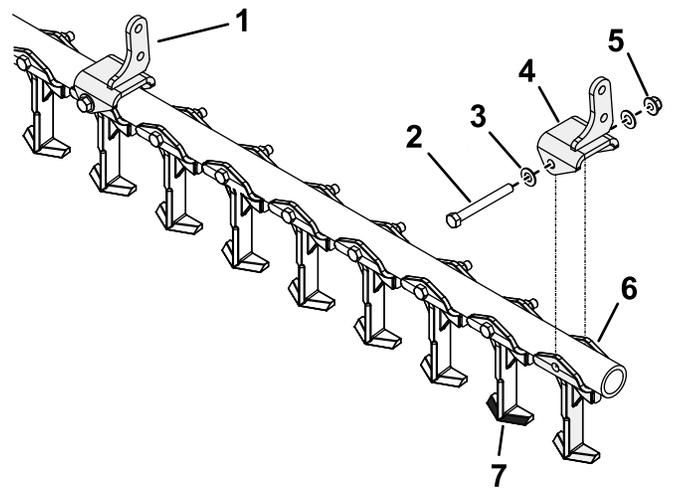

Figure 2
1. Install the weeder tine and weeder tine mounts to the toolbar as shown in Figure 2.